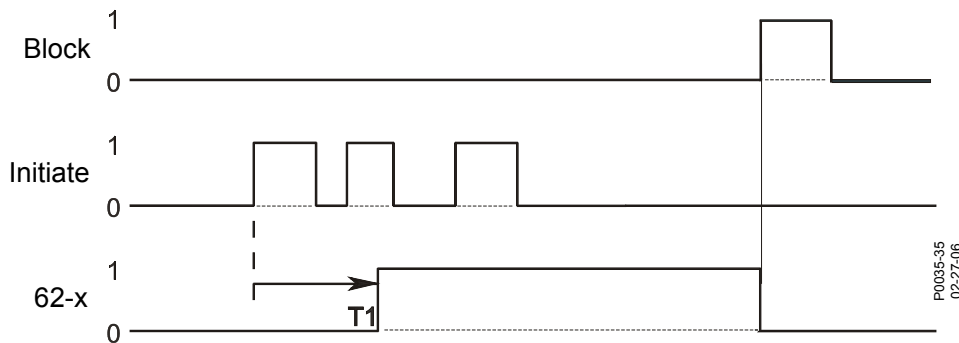

Figure 69-8. Latched Mode
Step 9: Use the Metering Explorer in BESTCOMSP^{lus} to open the Reports, Sequence of Events screen. Verify that the 62-1 timer output remained false after the first 43-1 switch action (ON), the 62-1 timer output went true 30 seconds after 43-1 switch action (ON), and 62-1 timer output returned to a false state with the 43-2 switch action (ON). Figure 69-8 illustrates the timing relationship of the 43-1/43-2 switches and 62-1 timer.